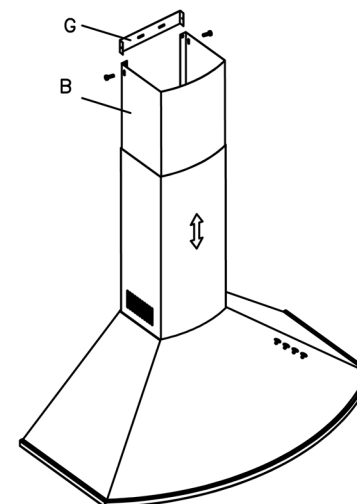

Fig. 5
- Next, secure support G to the upper end of the wall, making sure that it is properly aligned with the extendible tube. Extend the movable part of tube B until it reaches support G and connect to the support with the two side screws. (Fig. 5).